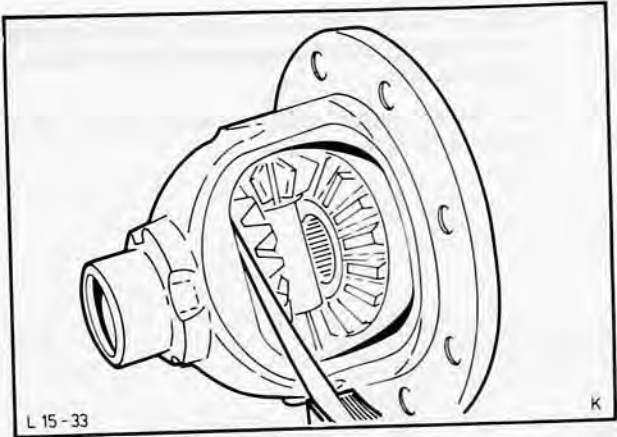

Fig. 62. Measure side gear play with feeler gauge
9. Measure play between side gear bearing faces and differential housing using a feeler gauge, Fig. 62.